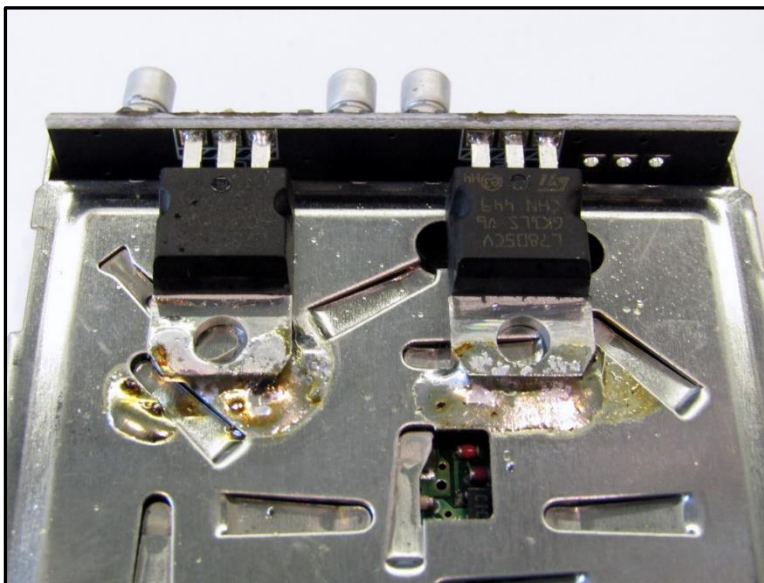

Figure 11: Soldering the voltage regulators.
8. Solder both tabs of the voltage regulators to the silver body of the tuner can as shown in figure 11. Solder the pins of the regulators to the PCB and trim the legs with small side cutters.